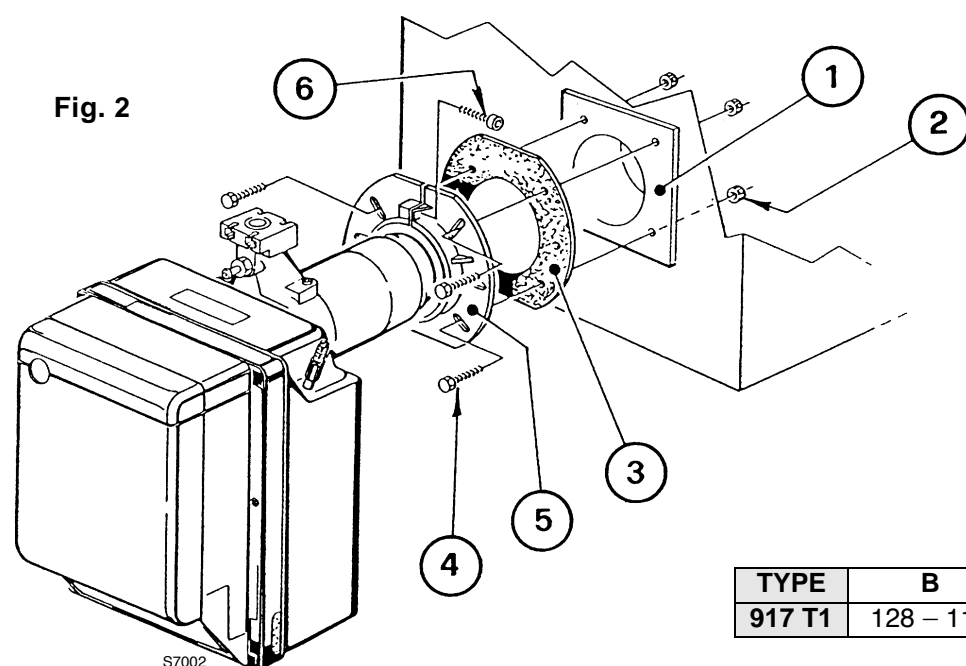

Fig. 3
- Widen, if necessary, the insulating gasket holes (3, fig. 3).